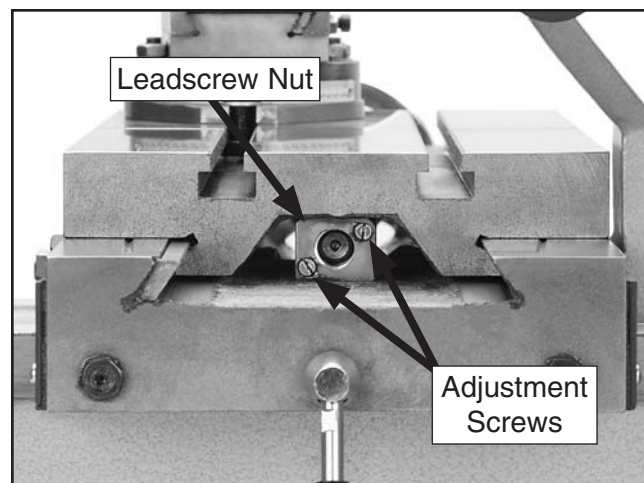

Figure 105. Table leadscrew nut and adjustment screws (viewed from the rear of the table).
2. Use the handwheel to move the table toward the operator until you can access the leadscrew nut adjustment screws from the rear of the table, as shown in **Figure 105**.